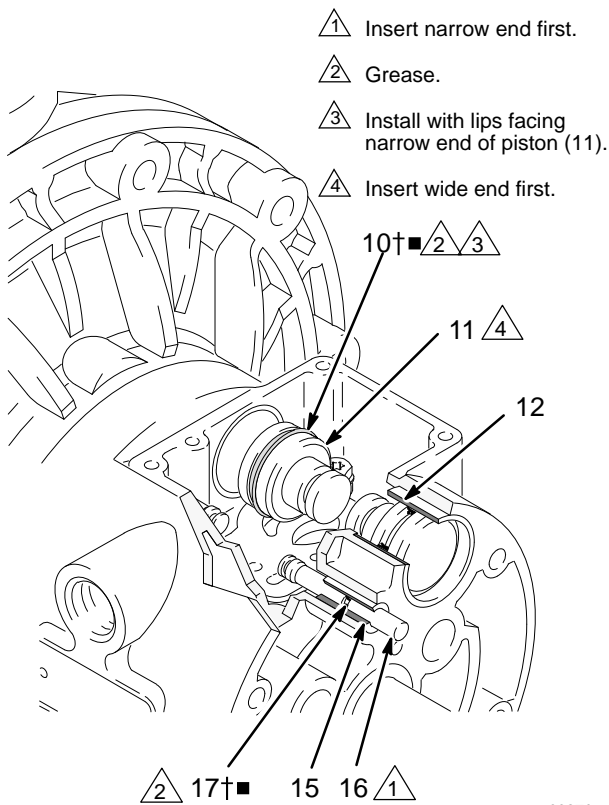

FIG. 8
4. Pull the two actuator pistons (11) out of the bearings (12). Remove the u-cup packings (10) from the pistons. Pull the pilot pins (16) out of the bearings (15). Remove the o-rings (17) from the pilot pins. See FIG. 8.
6. Inspect the bearings (12, 15) in place. See FIG. 8. The bearings are tapered and, if damaged, must be removed from the outside. This requires disassembly of the fluid section. See page 21.
4. Install an o-ring (17) on each pilot pin (16). Grease the pins and o-rings. Insert the pins into the bearings (15), **narrow** end first. See FIG. 8.
5. Install a u-cup packing (10) on each actuator piston (11), so the lips of the packings face the **narrow** end of the pistons. See FIG. 8.
6. Lubricate the u-cup packings (10) and actuator pistons (11). Insert the actuator pistons in the bearings (12), **wide** end first. Leave the narrow end of the pistons exposed. See FIG. 8.